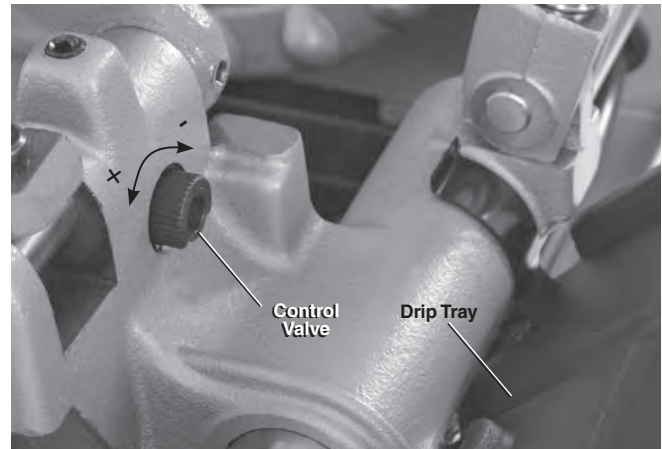

Figure 5 – Adjusting Oil Flow
11. Check the level of RIDGID Thread Cutting Oil. Remove the chip tray and oil pan liner; see that the filter screen assembly is fully submerged in oil. See Oil System Maintenance. If the machine is equipped with the drip tray, make sure it properly placed to direct oil dripping off the die head into the chip tray (see *Figure 5*).
- Place die head in the use position. Depress and hold the foot switch. Check for oil flow through the die head. Remove foot from the foot switch. The oil flow can be adjusted with the control valve on carriage (*Figure 5*). Clockwise rotation decreases flow and counterclockwise increases flow. Do not adjust while the machine is running.